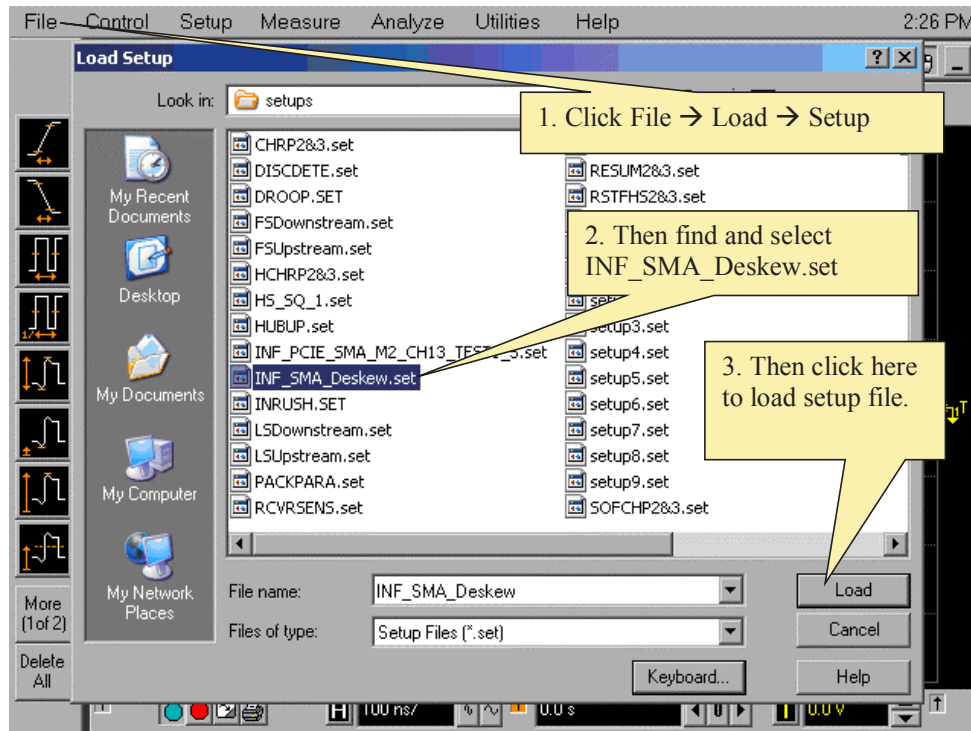

Figure 123 Load De-skew Setup.
- 2 Referring to Figure 123 below, perform the following steps: